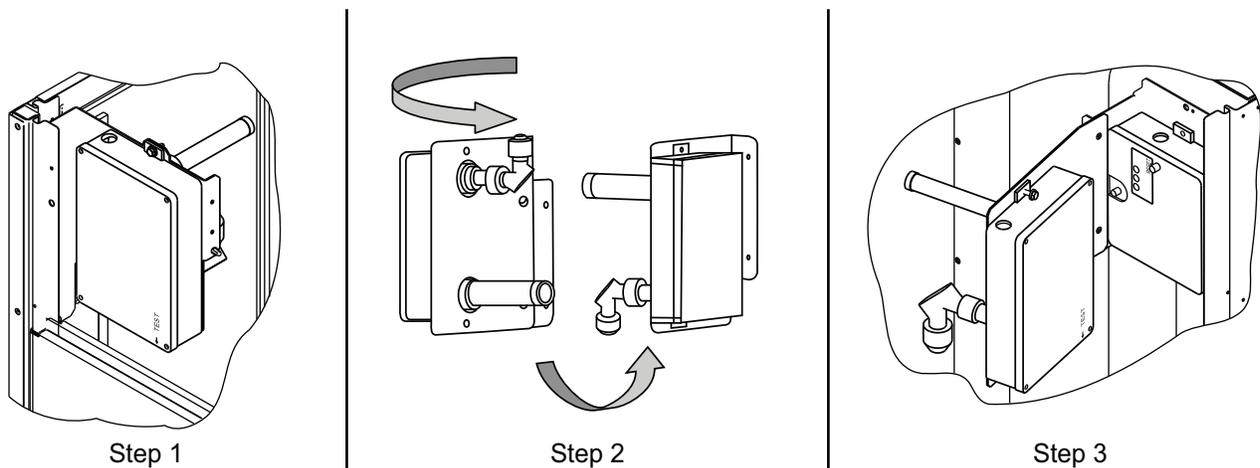

Fig. 65 — Completing Installation of Return Air Smoke Sensor
1. Unscrew the two screws holding the return-air smoke detector assembly. See Fig. 65, Step 1.
3. Turn the assembly 90 degrees and then rotate end to end. Make sure that the elbow fitting is pointing down. See Fig. 65, Step 2.
4. Screw the sensor and detector plate into its operating position using screws from Step 1. See Fig. 65, Step 3.